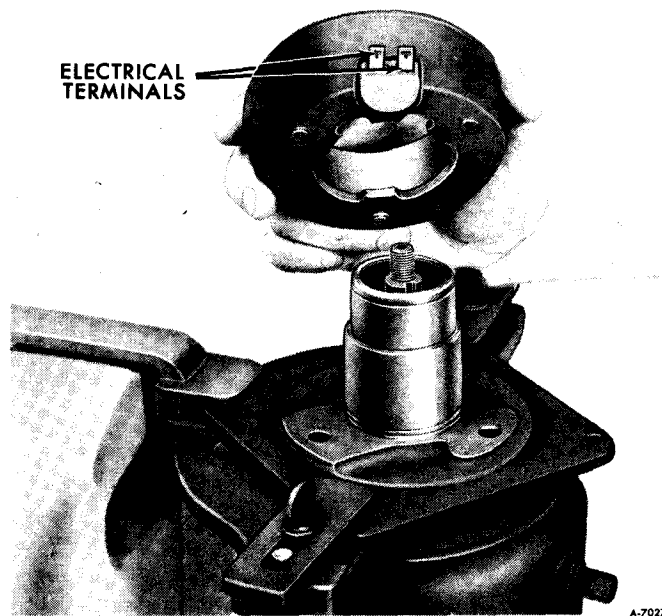

Figure 84—Installing Coil Housing
1. Position coil and housing assembly on compressor front head casting so that electrical terminals line up with marks previously scribed on compressor (figure 84).